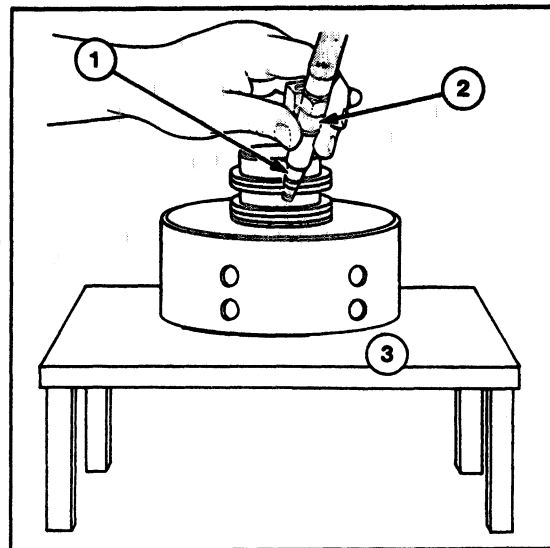

FIGURE 6-15
5. Use an air-line and a tire valve to extract the piston from the clutch housing, Figure 6-15.